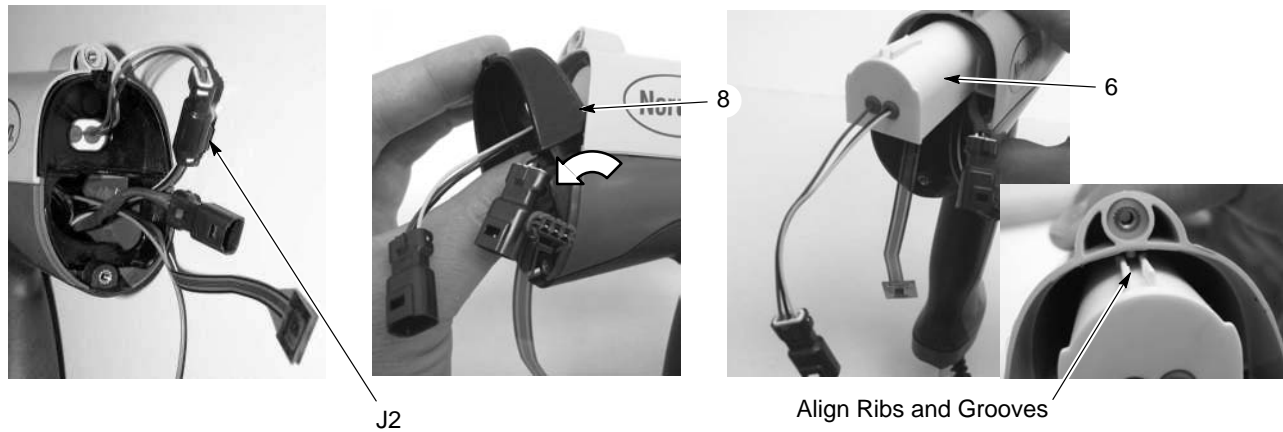

Figure 2 Removing Bulkhead and Power Supply
9. See Figure 2. Insert a small screwdriver into the recess in the J2 gun cable/power supply connectors to release the catch and disconnect the connectors.
10. Pull on the top of the bulkhead (8) to remove it from the gun.
11. Slide the power supply (6) out of the gun body and pull the power supply leads and connector out of the bulkhead.